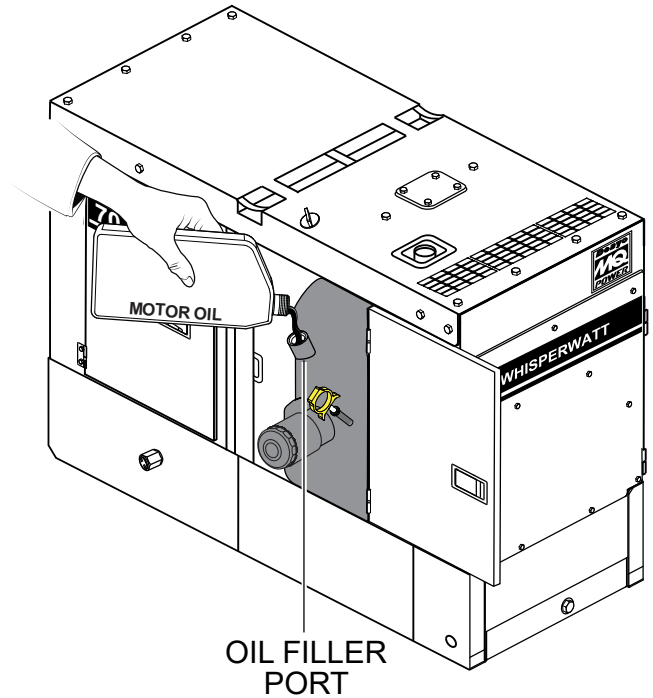

Figure 23. Engine Oil Filler Port
5. If the engine oil level is low (Figure 22C), remove the oil filler cap (Figure 23) and fill to a safe operating level (max) as indicated by the dipstick (Figure 22A).